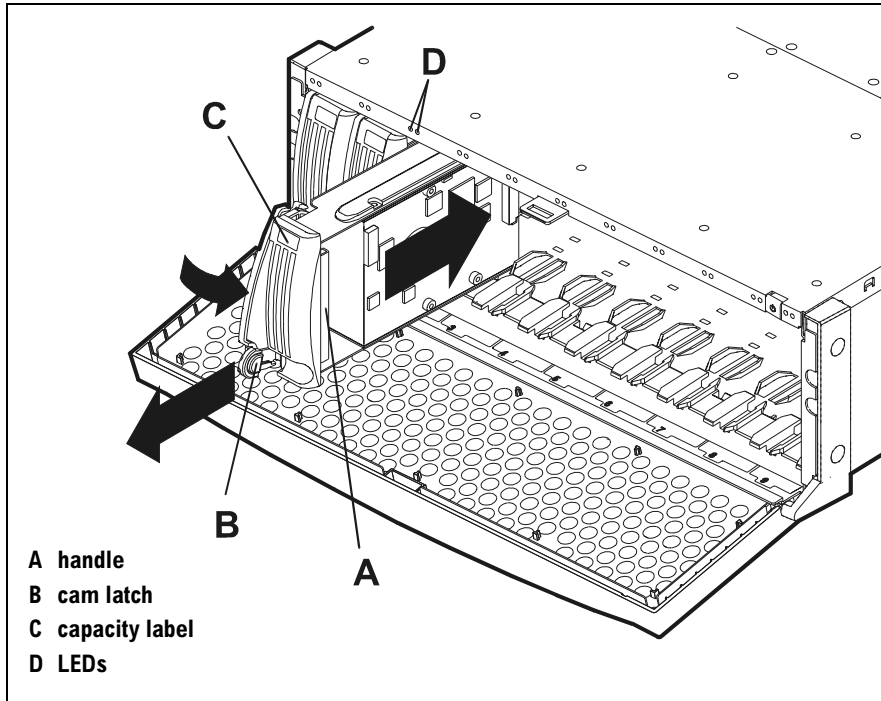

Figure 43 Disk Installation
1. Remove the replacement disk from its ESD bag, being careful to grasp the disk by its handle (A in Figure 43).